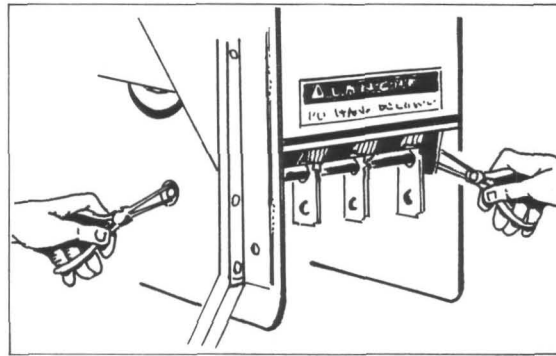

Fig. 2
- B. Hold Cylinder Pin with pliers and remove cotter pin at other end of pin as shown in Figure 2